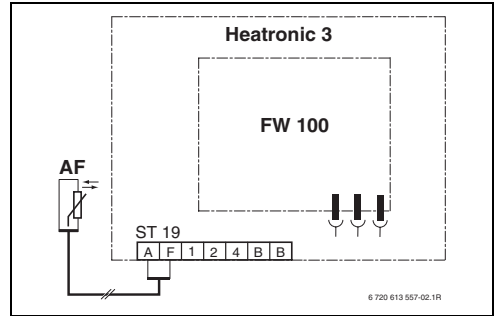

Fig. 14 Controller installed in facia via BUS contacts in BUS-enabled Heatronic 3.
- Make the electrical connections (→ Fig. 14 on page 16 or 15 on page 17).